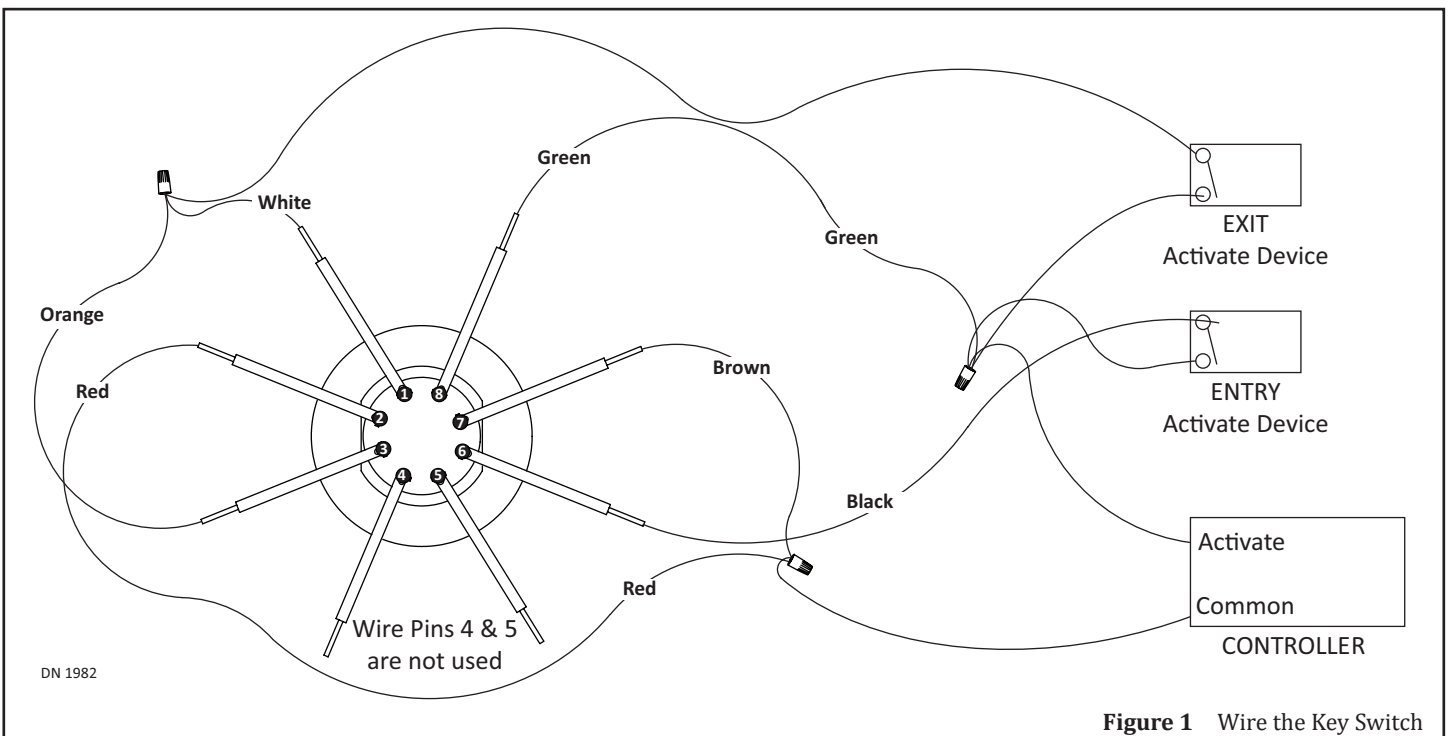

Figure 1 Wire the Key Switch
1. Wire as shown in Figure 1, or refer to the Contact Configuration shown in Figure 2 to wire as needed.
2. Secure the Key Switch Assembly to the Jamb Tube with (2) 6-32x .25 Phillips Head screws.